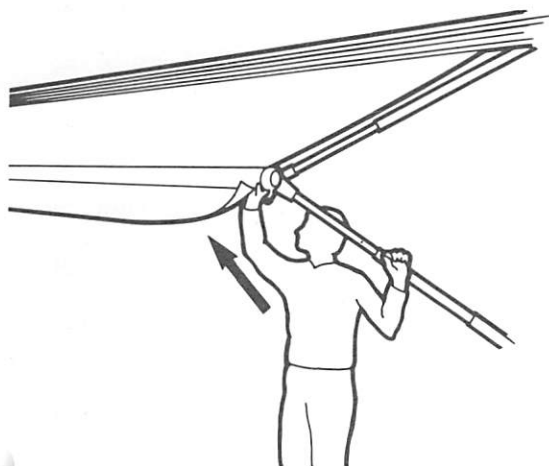

Fig. 6
- Step 6. Raise the awning to the desired height by releasing the snap stud on the main arm and pushing up and outward on the roller assembly (Figure 6).